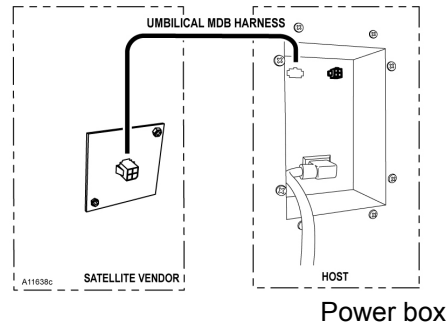
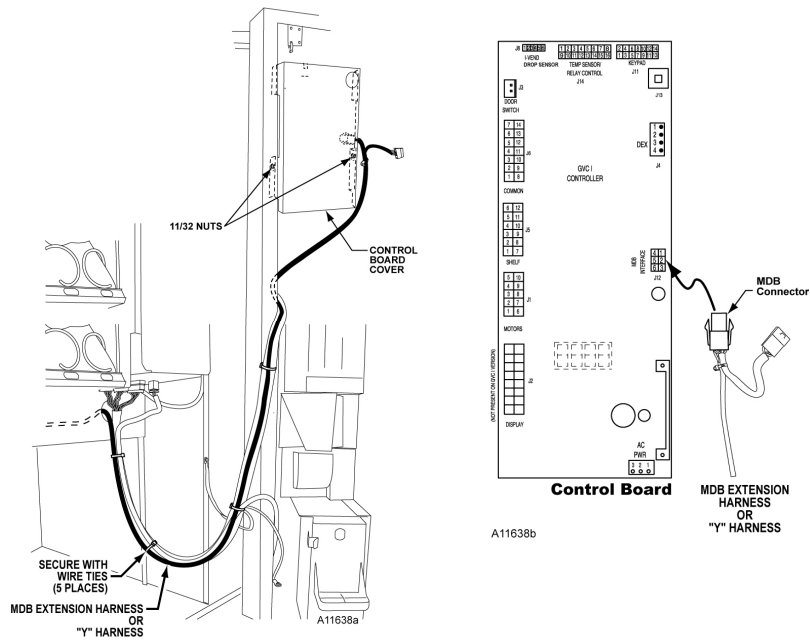

Figure 4.5. Umbilical MDB Harness
Figure 4.6 Install 'Y' Harness
3. Remove the cover over the power box located on the back of Host Vendor. Look and see if there is a six (6) pin connector already mounted in the power box. Plug the umbilical MDB harness in. See Figure 4.5
4. If there was not a six (6) pin connector in the power box, you will need to install the MDB extension harness.
5. Open the door of the Host Vendor. Loosen the two nuts that hold the cover on over the control board. Remove the cover. Locate the MDB plug on the right side of the control board. Unplug the MDB machine harness and plug in the "Y" harness. Plug the machine's MDB plug to the "Y" harness. See Figure 4.6.
6. Route the long leg of the "Y" harness down the door and over to the cabinet. Use the cable ties to fasten the MDB harness to the motor harness. Locate the power box in the bottom right hand corner of the cabinet. Push the end through the hole in the power box. See Figure 4.6.